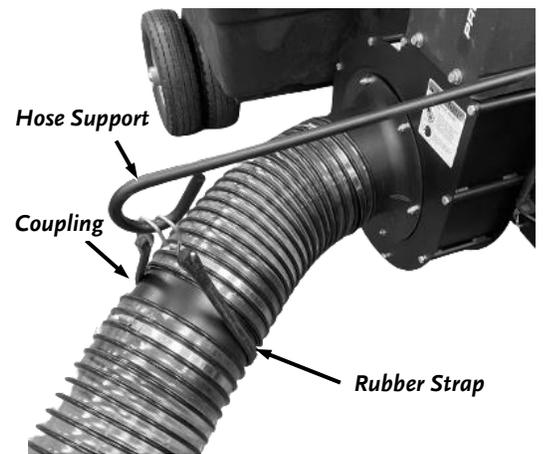

Figure 86
1. Remove the Rubber Strap from the Hose Support (**Figure 86**).